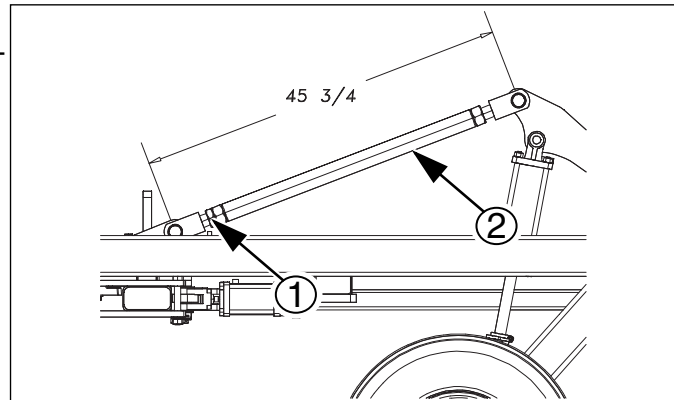
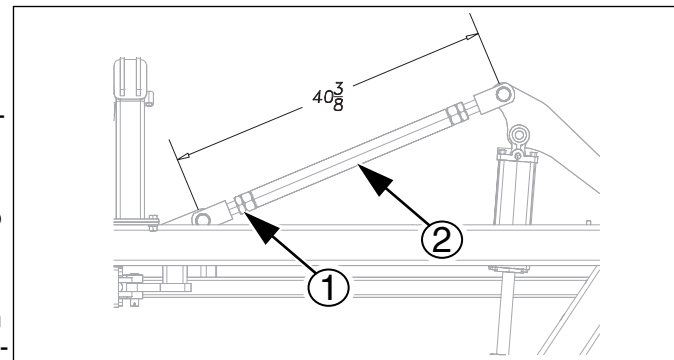

Figure 14
Figure 15
16. Set the wings to match the depth of the center. Start by loosening jam nut ① with turnbuckle wrench (stored on rear pegs of hitch). Turn the turnbuckle ② to adjust. (Shorten turnbuckle to run shallower, lengthen to run deeper), see *Refer to Figure 14* or *Refer to Figure 15*, for pre-setting the turnbuckles.
Refer to Figure 14
Refer to Figure 15